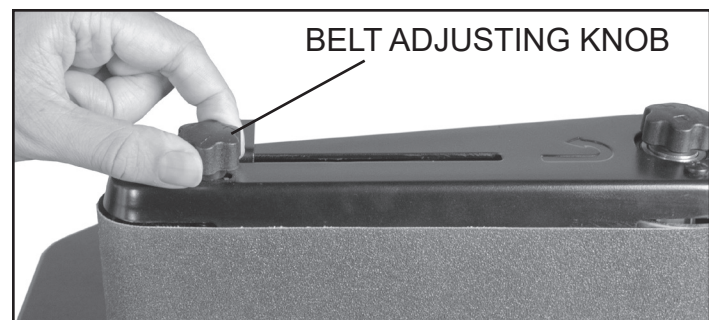

FIG. 15
6. Make sure belt tracks correctly. Plug the machine in and turn it on. Do not attempt to sand any material. By turning the Belt Adjusting Knob on the top left, you can move the position of the belt up or down. FIG. 15.